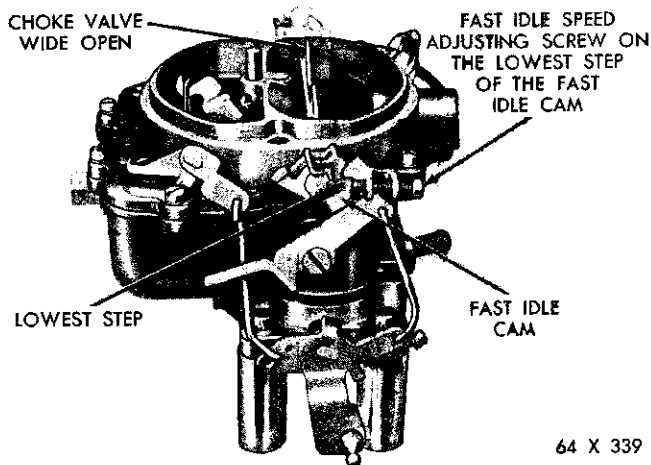

Fig. 16—Fast Idle Speed Adjustment (On the Engine)
- (1) With the engine running and the transmission in the neutral position, open the throttle slightly.
- (2) Close the choke valve about 20 degrees then allow the throttle to close. Return the choke valve to the open position.
- (3) The fast idle adjusting screw should be contacting the lowest step on the fast idle cam, as shown in Figure 16.
- (4) With the engine warmed-up to the normal operating temperature, turn the fast idle adjusting screw in or out to secure 700 rpm. **Reposition the cam and throttle after each adjustment.**